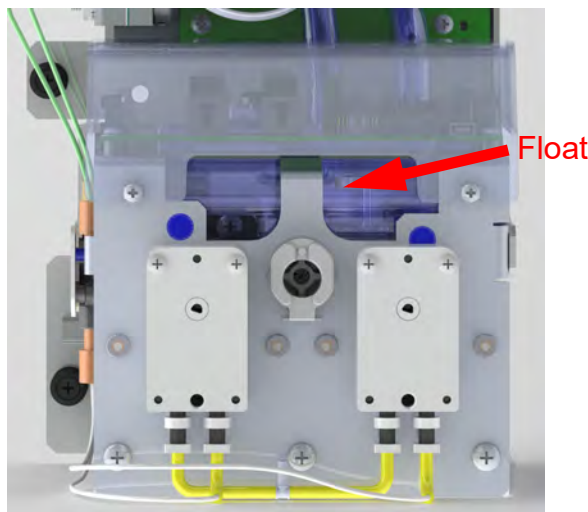

Figure 61: DI Reservoir Level with Float
4. Squeeze the bottle to fill the DI reservoir until the water line reaches **JUST BELOW** the top of the reservoir. Use the float seen through the window as a guide, as shown in Figure 61.
8. Verify that the water line is **JUST BELOW** the top of the reservoir, as shown in Figure 61: DI Reservoir Level with Float. Add water as needed. See “To fill the DI water reservoir” on page 202.